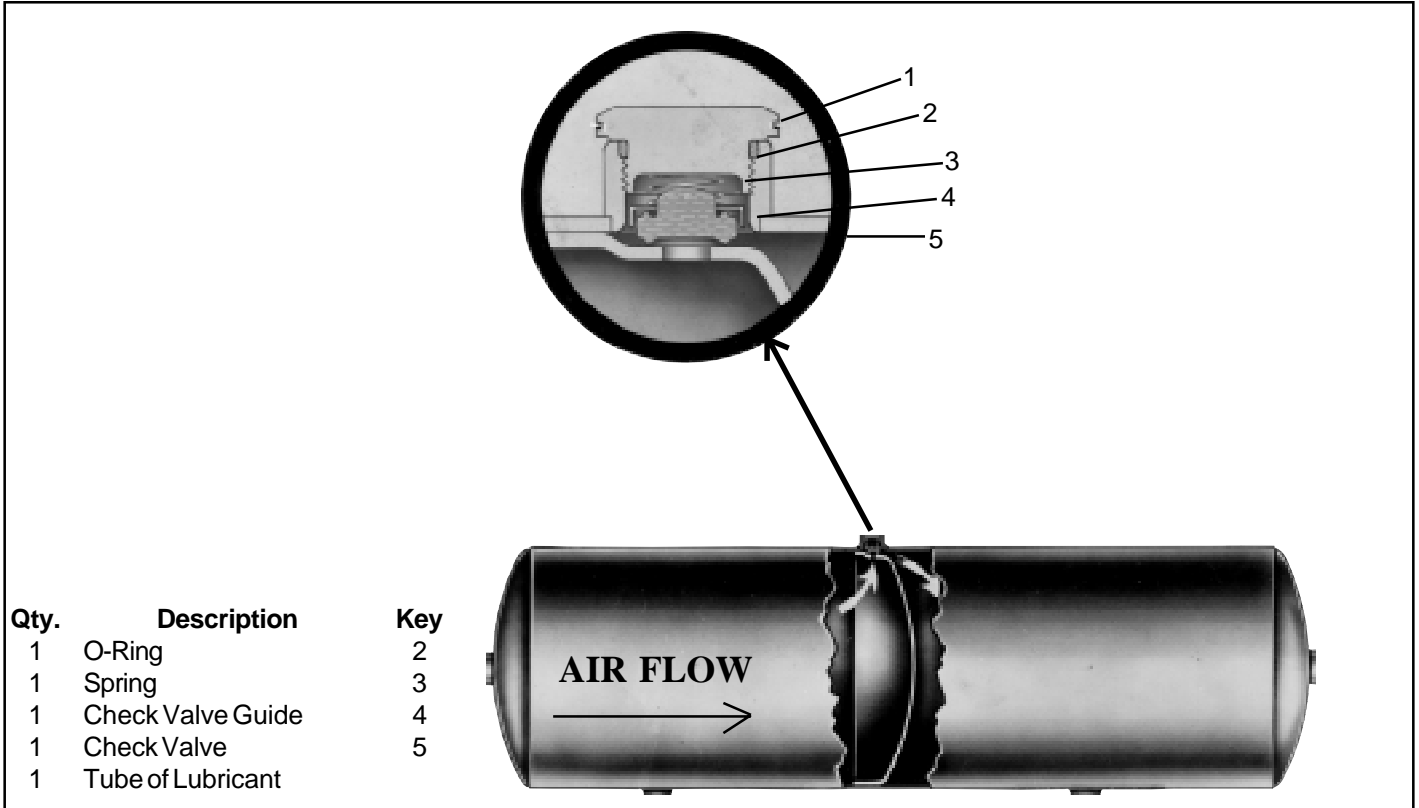

Figure 1 Two Compartment Reservoir
1. Install check valve (5) in the position shown in Figure 1 inset.
2. Install check valve guide (4) over check valve (5). The flange of the guide should surround the check valve as shown in Figure 1.
3. Install valve spring (3) on valve guide (4).
4. Install O-Ring (2) on cap nut (1) and install the cap nut and torque to 150-400 inch pounds.